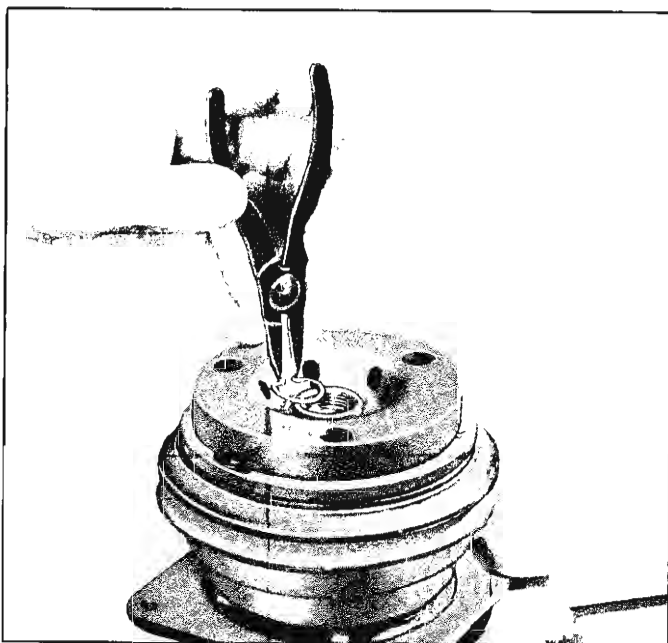

Fig. 17—Removing Pulley and Bearing Assembly Retainer Ring
2. Using snap ring pliers J-6435, remove the pulley and bearing retainer ring (fig. 17).